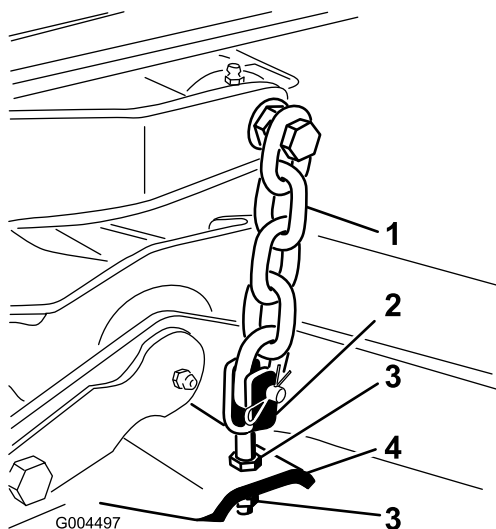

Figure 24
8. Adjust the jam nuts securing the mower yokes/chains to the mower until the mower is level (Figure 24).
7. Adjust the jam nuts securing the rear mower yokes/chains to raise the rear of the mower so that the blade pitch is set to 8 mm (5/16 inch) (Figure 24).